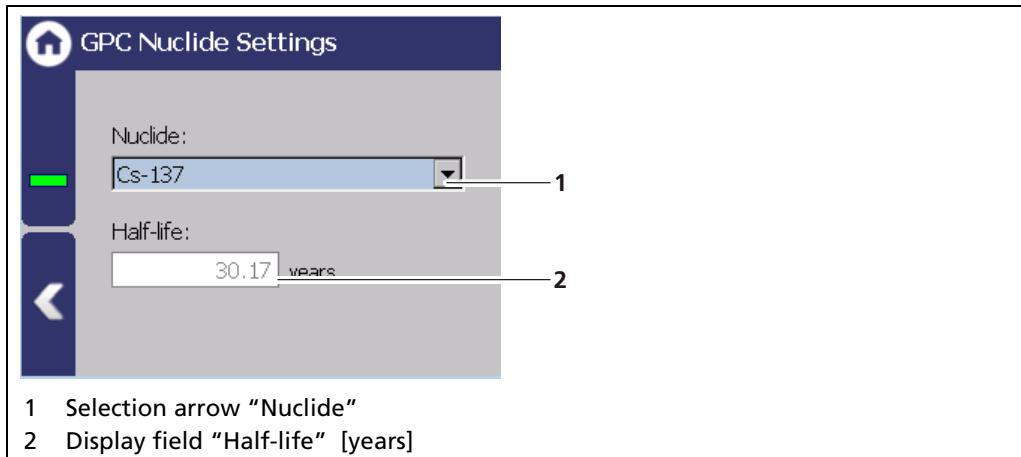

Fig. 83 GPC Nuclide Settings
Under "GPC Settings" the isotope of the source for gas density measurement can be selected (Fig. 83, item 1). The half-life time of the isotope is shown in the display field (Fig. 83, item 2). It is possible to set different nuclides for GPC and level measurement.